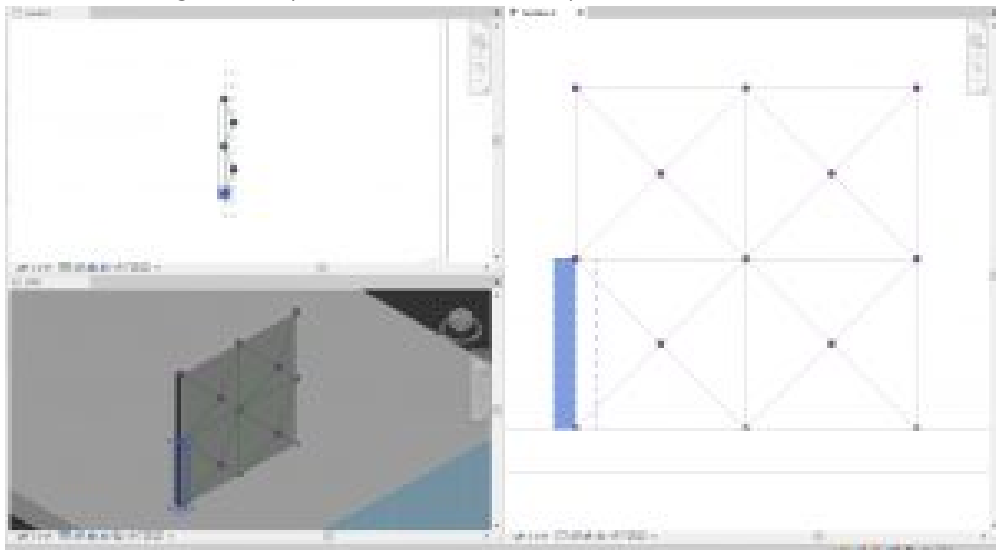

Figure 7.10 Connected reference lines shown in Level 4 view, 3D view and Section 2 view
28. In the Section 2 view, draw a line from dot to dot. Be sure to watch the 3D view in case the line does not snap to the element points. Once the entire wall is complete as shown in Figure 7.10, proceed to the next step